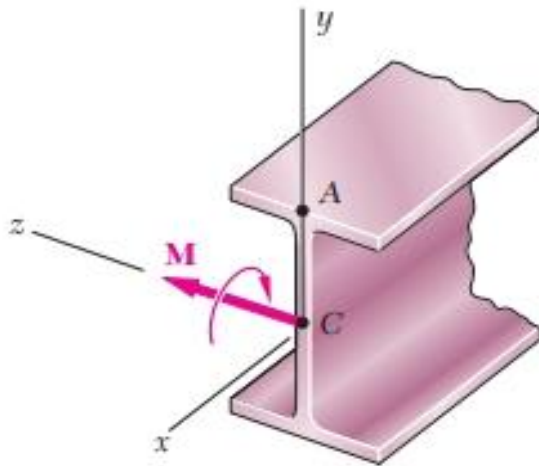

Figure 5.1
- c. A W200 x 31.3 rolled-steel beam is subjected to a couple M of moment 45 kN m as shown in Figure 5.1. Given that $E = 200\text{ GPa}$ and $\nu = 0.29$, determine the radius of curvature ρ , **[5 marks]**